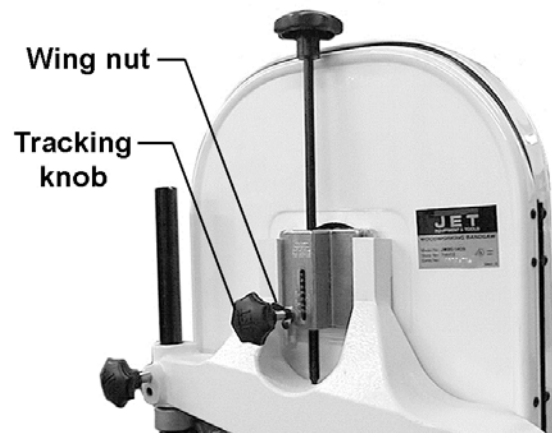

Figure 18
2. If adjustment is necessary, loosen wing nut (Figure 18). Tightening the tracking knob slightly will move blade so it tracks towards the rear of machine. Loosening the tracking knob slightly will cause the blade to track toward the front of the machine.